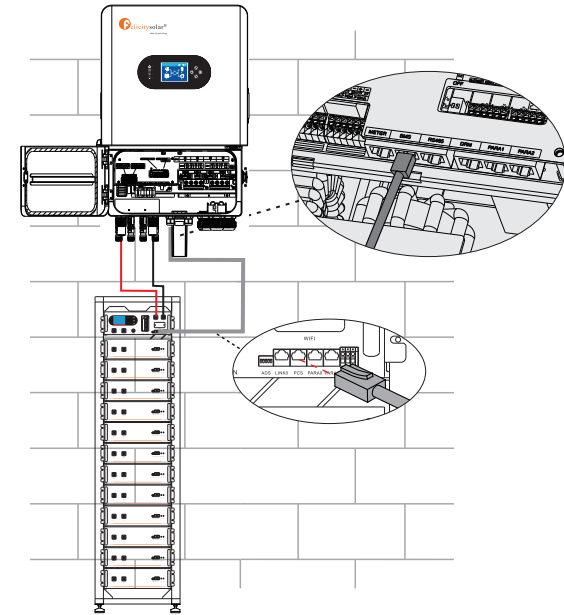

**Figure 4.7-4 RJ45 interface**
**Step 4.** Connect RJ45 terminal to the right position onto the inverter. See Figure 4.7-4